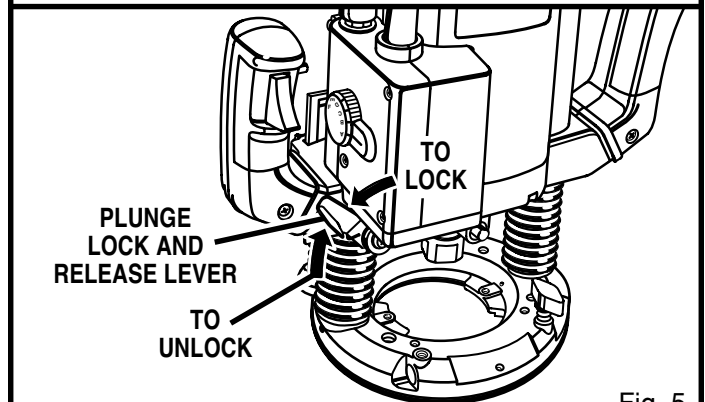

Fig. 5
- Raise the cutter by releasing the plunge lock and release lever. See Figure 5.